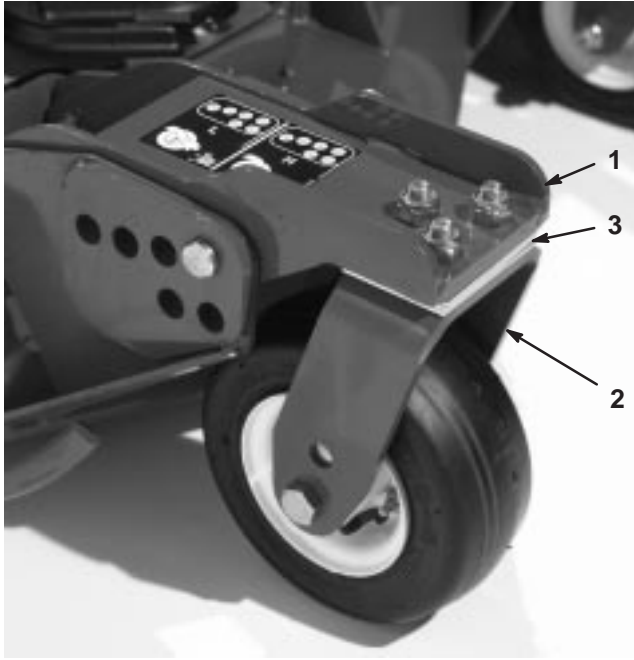

Figure 23
Rotate blade of each spindle until the ends face forward and backward. Measure from the floor to the front tip of the cutting edge. Adjust 1/8 in. shims on front castor arm(s) to match height of cut to decal (Fig. 23). For the outside blade spindle only, refer to Adjusting the Cutting Unit Pitch, page 48.
3. If the inside edge of the side cutting unit is too high relative to the outside edge of the front cutting unit, remove one 1/8 in. shim from the bottom of the front inside castor arm on the side cutting unit. (Fig. 23) Recheck measurement between outside edges of both side cutting units and inside edge of side cutting unit to outside edge of front cutting unit.